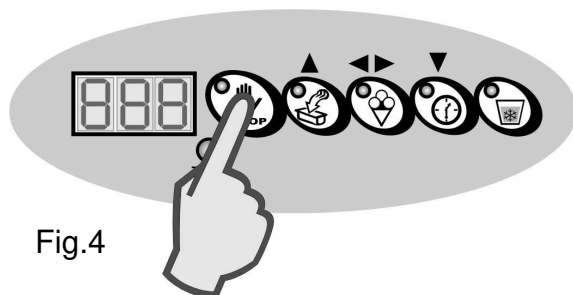

Fig.4
8. To exit programming and save the changed press the “**STOP**” key. (fig. 4)